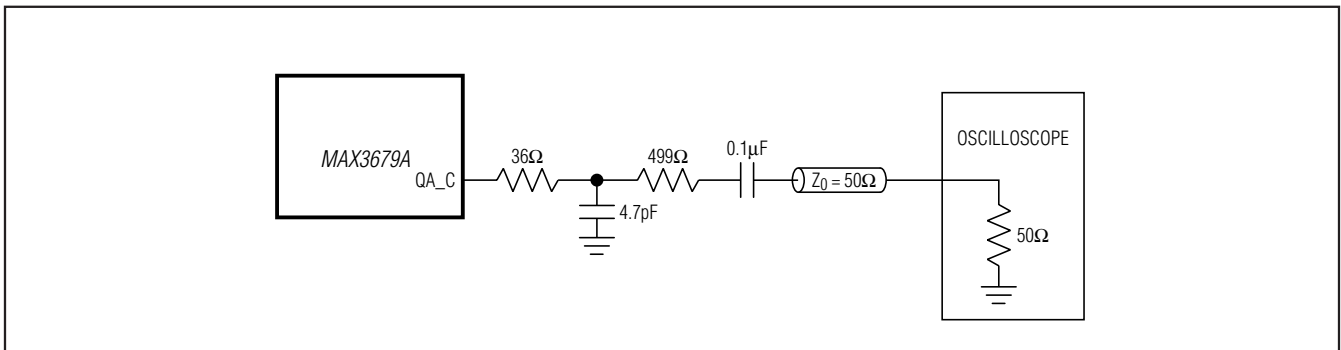

Figure 1. LVC MOS Output Measurement Setup
**Note 6:** Measured using setup shown in Figure 1 with  $V_{CC} = 3.3V \pm 5\%$ .